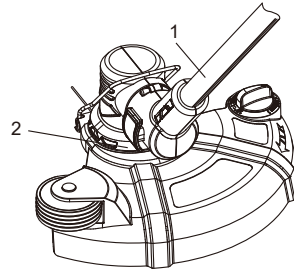

Fig. 9
1. Grasp the telescoping shaft (1) with one hand (Fig. 9).